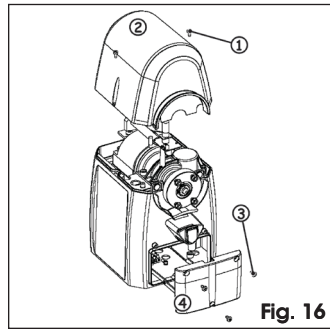

Fig. 16
1. Unscrew the securing screws of the upper housing (Fig. 16 ref. ①) and remove the housing (Fig. 16 ref. ②)
2. Unscrew the three screws (Fig. 16 ref. ③) securing the board cover (Fig. 16 ref. ④)